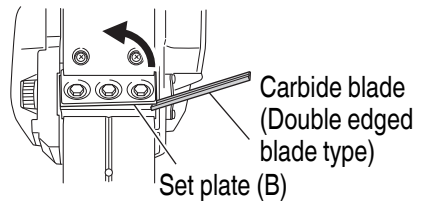

Fig. 12
- (1) As shown in Fig. 12, lift set plate (B) and insert the new carbide blade between cutter block and set plate (B).